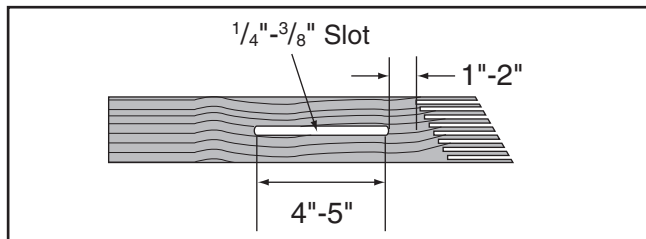

Figure 55. Slot routed in featherboard.
4. Rout a $\frac{1}{4}$ "- $\frac{3}{8}$ " wide slot 4"-5" long in workpiece and 1"-2" from short end of featherboard (see **Figure 55**).